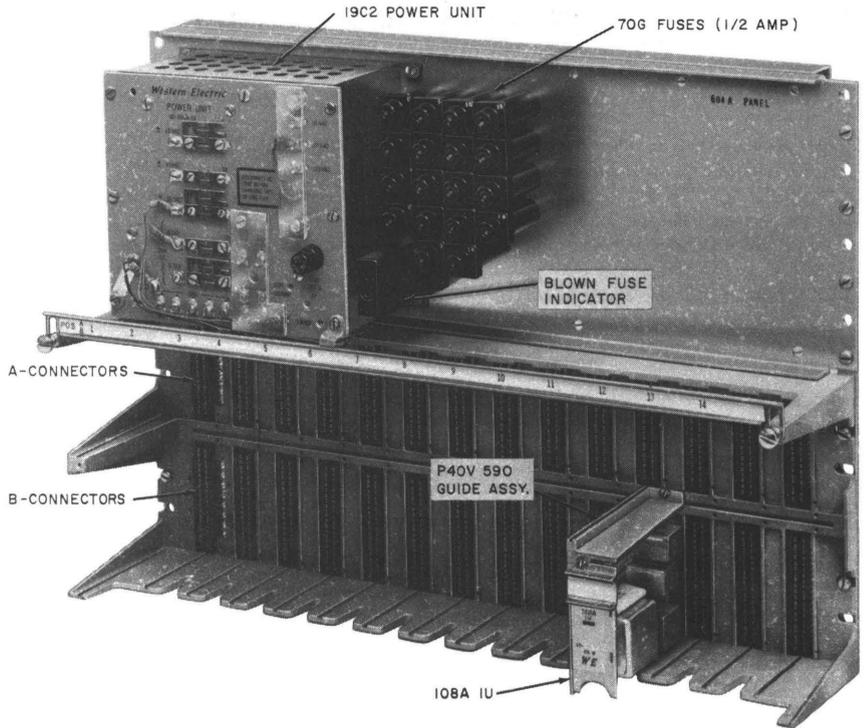

Fig. 1—108A Interconnecting Unit Mounted in 604A2 Panel
- Unit, Interconnecting, 108A (Fig. 1, 2, and 3, one per CO line)
*Note:* 108A IU replaces 433A KTU (MD).
- Panel, 604A2 (19C2 power unit and fuse panel, Fig. 1; will mount up to eighteen 108A IUs)
108A Interconnecting Unit (Fig. 1 or 2)
3.14 Refer to Fig. 1 for installation sequence of 108A IU in the 604-type panel. The suggested sequence is established to activate circuits in the order they appear at the customer interface. On current production of the 604B and the 604C panels, the **trunk** number is shown on the designation strip. On earlier production of the 604B, the **position** number is shown.